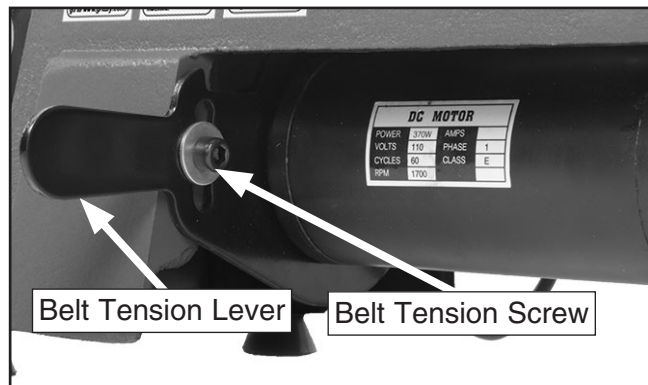

Figure 50. Belt tension controls.
2. Remove rear access cover and loosen belt tension screw (see **Figure 50**).